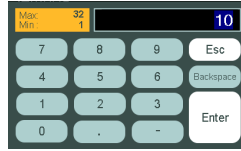

Figure 3-4 Keypad
1. Tap any of the **Month**, **Day**, **Year**, **Hour**, or **Minute** numbers with the gray background to invoke the keypad (Figure 3-4).